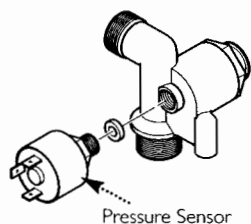

Fig. 54a
12.9 Water Pressure Sensor (Fig. 54a)